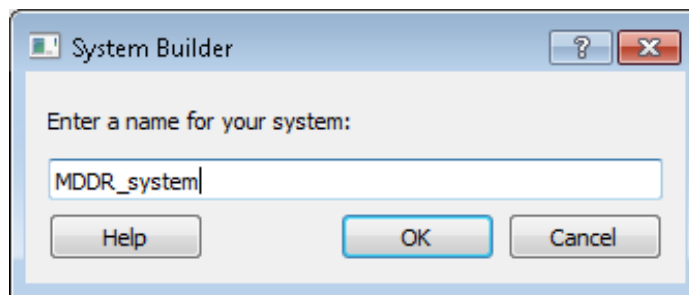

Figure 5. Create New System Builder Dialog Box
7. Enter **MDDR_system** as the name of the system and click **OK**, as shown in Figure 5.